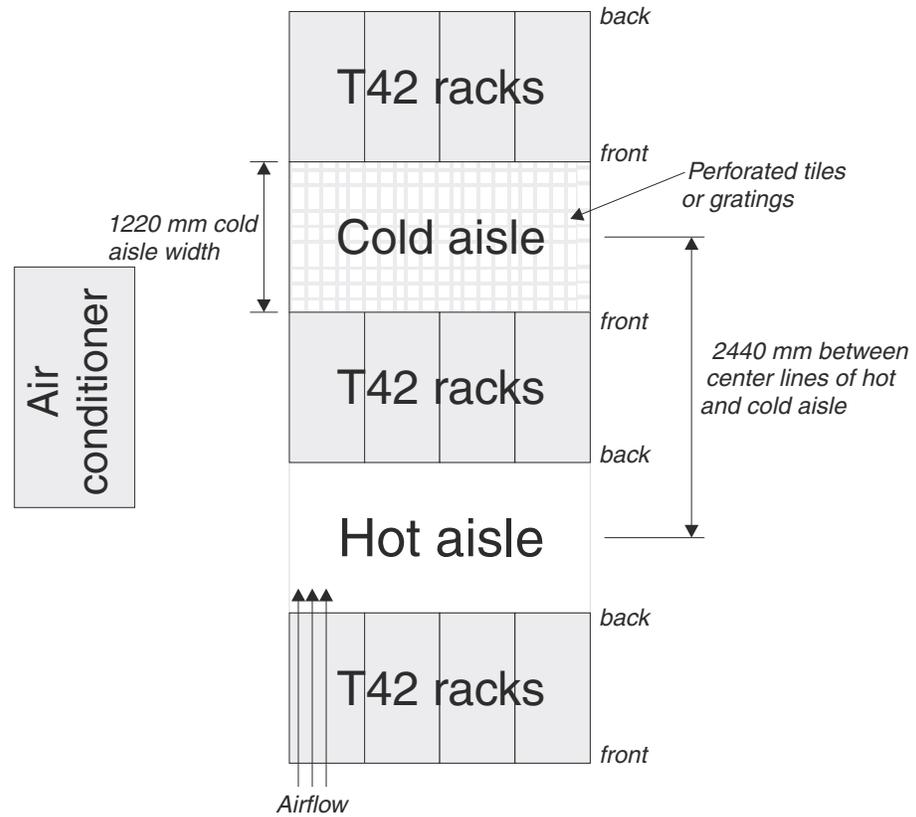

Figure 5. Example of Cold Aisle/Hot Aisle Rack Configuration
- Air enters at the front of the rack and leaves at the back. To prevent the air that is leaving the rack from entering the intake of another piece of equipment, racks must be positioned in alternate rows, back-to-back and front-to-front. This arrangement is known as “Cold Aisle / Hot Aisle” and is shown in Figure 5 on page 9.